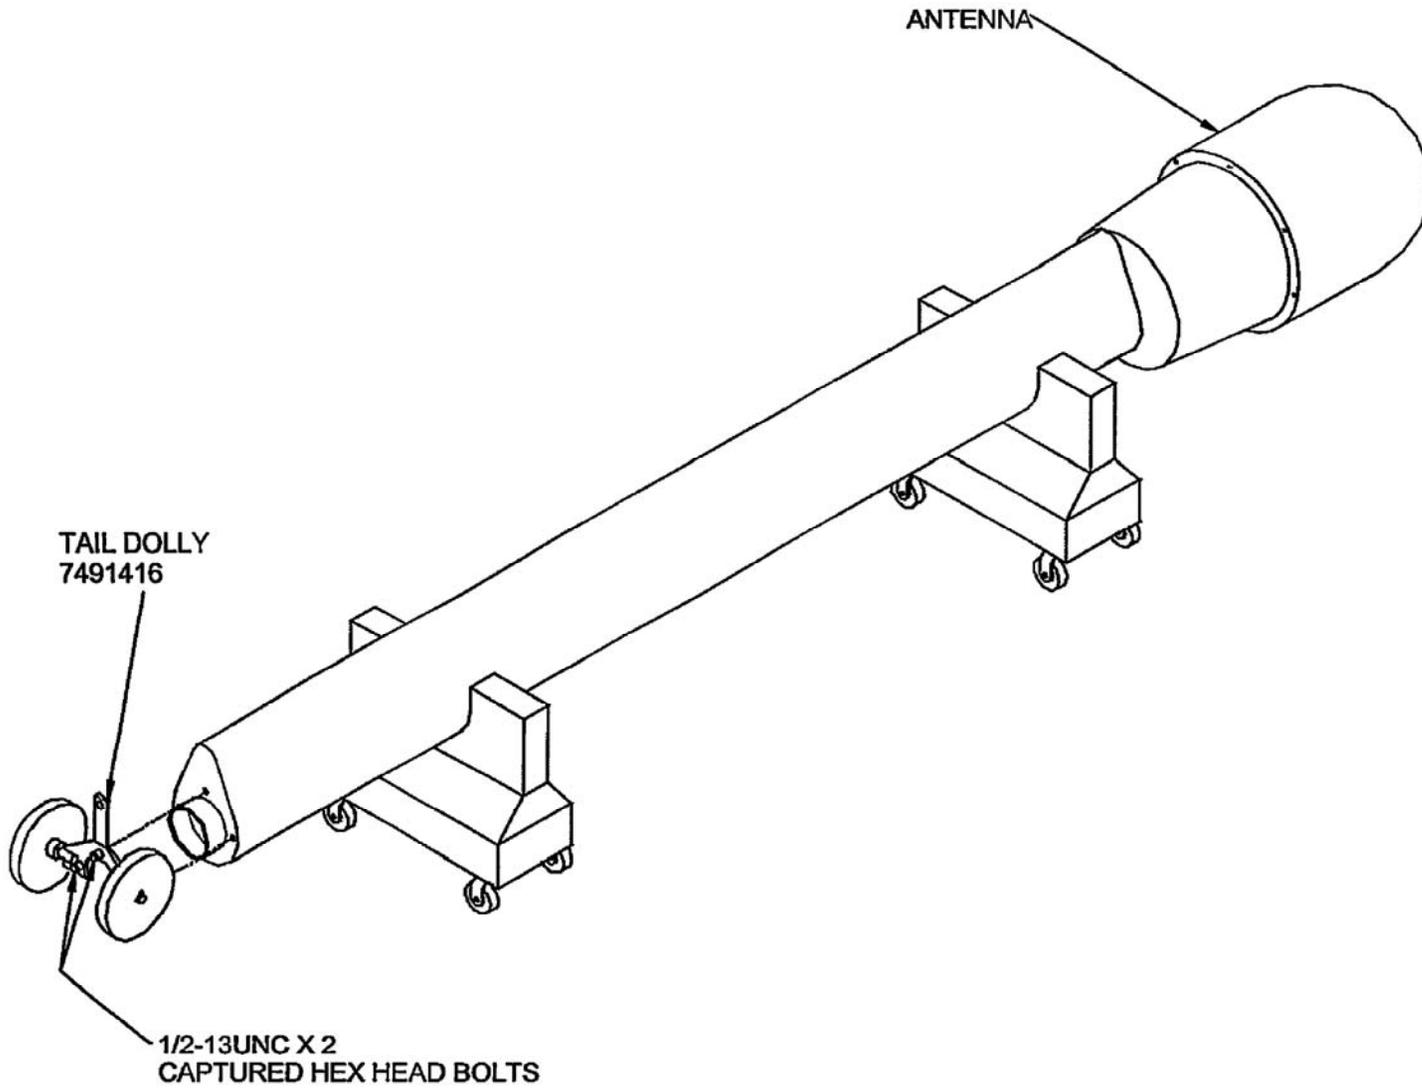

Figure 4-14 SUB HDR, ACM Antenna Installation of Tail Dolly
4.12.2 INSTALLATION OF ANTENNA TAIL DOLLY. The method for installation of the antenna tail dolly is given below and is illustrated in Figures 4-14 and 4-15.
When using the antenna tail dolly on a SUB HDR and ACM antenna mast assemblies, mast orientation when rotating the mast to or from the vertical position will have the forward end facing down. Rotate the antenna tail dolly around the antenna connector, so that the semicircular mounting ring is positioned aft. See Figure 4-14
- b. Attach the antenna tail dolly or hoist cylinder dolly assembly on the lower end of the antenna or hoist cylinder in accordance with applicable paragraphs 4.11 and 4.12. See Figures 4-14, 4-15, and 4-16 for rigging guidance.
- c. Attach the antenna tail dolly or hoist cylinder dolly assembly onto the lower end of the antenna or hoist cylinder in accordance with applicable paragraphs 4.11 and 4.12. See Figures 4-14, 4-15, and 4-16 for rigging guidance.